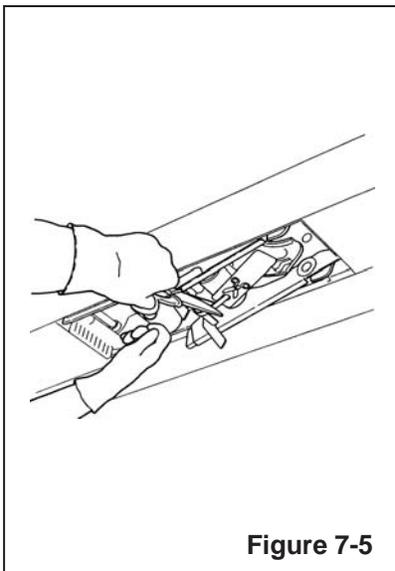

Figure 7-5
1. Cut the plastic ties holding the lower taping head in position. Hold taping head buffing roller while cutting the plastic tie. Allow buffing/applying arms to extend slowly (**Figure 7-5**).